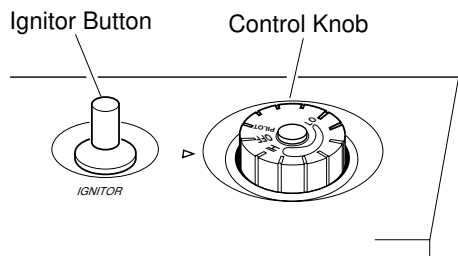

Figure 16 - Control Knob In The OFF Position
4. Wait five (5) minutes to clear out any gas. Then smell for gas, including near the floor. If you smell gas, **STOP!** Follow "B" in the safety information at the top of column 3, page 9. If you don't smell gas, go to the next step.
5. Turn control knob counterclockwise to the PILOT position. Press in control knob for five (5) seconds (see Figure 16).